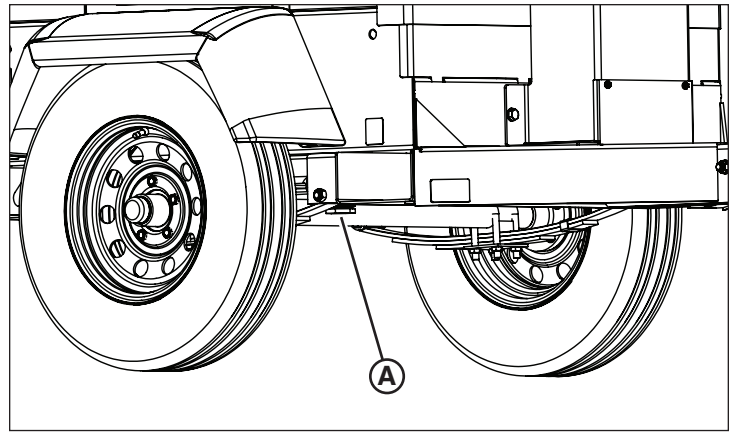

Figure 27
1. Position a suitable container beneath the fluid containment drain (**A**, Figure 27), located under the right side of the light tower trailer behind the front forklift pocket.